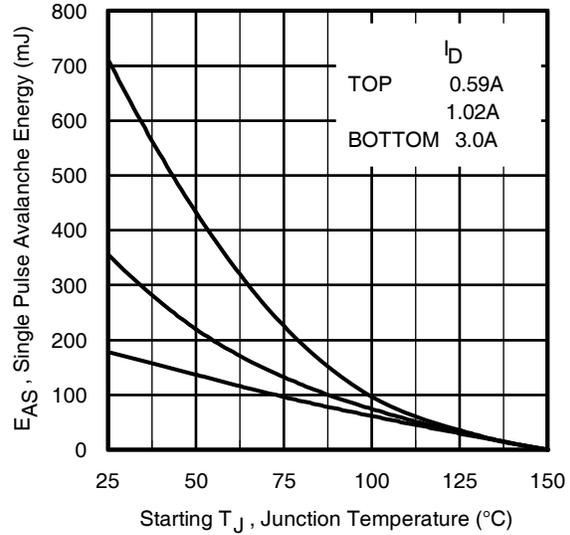

Fig 13. Maximum Avalanche Energy vs. Drain Current
- ② Starting $T_J = 25^\circ\text{C}$, $L = 40\text{mH}$, $R_G = 25\Omega$, $I_{AS} = 3.0A$. (See Figure 13).
- ③ $I_{SD} = 6.0A$, $di/dt \leq 416A/\mu s$, $V_{DD} V_{(BR)DSS}$, $T_J \leq 150^\circ\text{C}$.
- ④ Pulse width $\leq 300\mu s$; duty cycle $\leq 2\%$.
- ⑤ $C_{oss\ eff.}$ is a fixed capacitance that gives the same charging time as C_{oss} while V_{DS} is rising from 0 to 80% V_{DSS} . $C_{oss\ eff. (ER)}$ is a fixed capacitance that stores the same energy as C_{oss} while V_{DS} is rising from 0 to 80% V_{DSS} .
- ⑥ R_{θ} is measured at T_J approximately 90°C
- ⑦ When mounted on 1" square PCB (FR-4 or G-10 Material). For recommended footprint and soldering techniques refer to application note # AN-994 techniques refer to application note #AN-994.